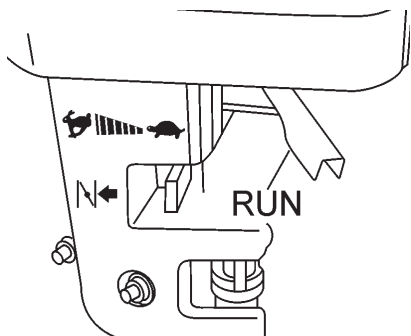

Figure 14. Throttle Lever (Run)
- To begin pumping, place the throttle lever (Figure 14) in the **"RUN" position**.